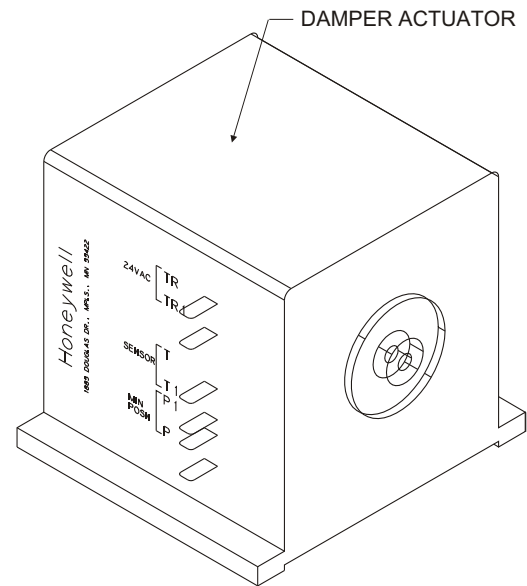

Figure 9
4. Install jumper on damper motor terminals T and T1. See Figure 9.